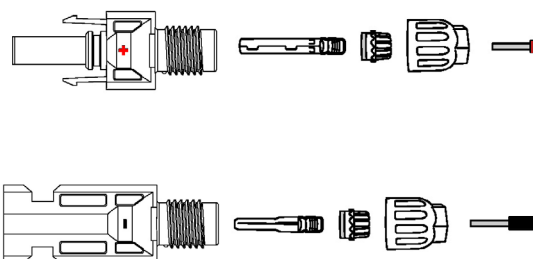

Fig. 38. Disassembling the connector.
- c. Remove the connector from the accessory bag, as shown in Fig. 38.